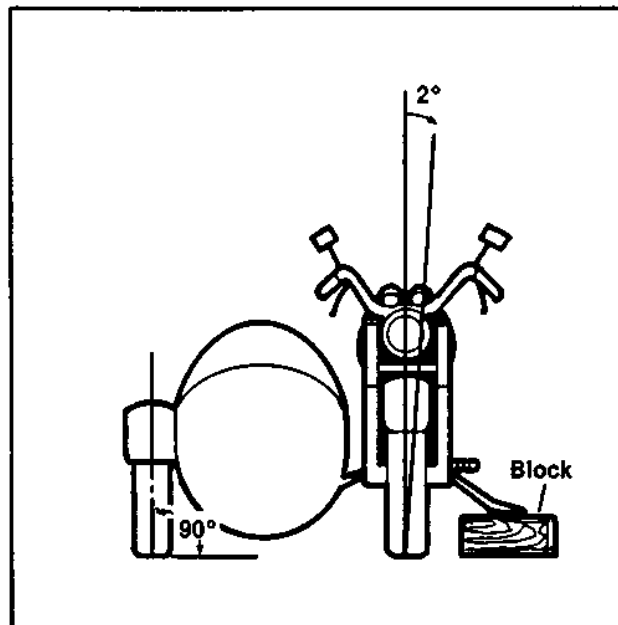

Figure 1. Vehicle Tilt Angle
1. Place blocking under jiffy stand as shown in Figure 1.
#### ADJUSTMENT (Figure 1)